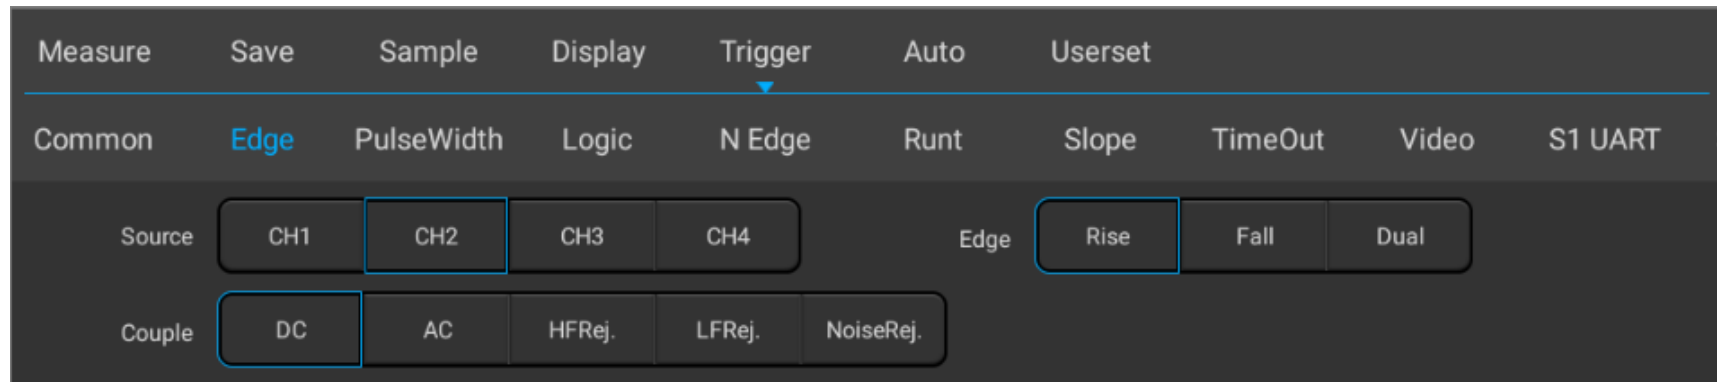

Figure 6-12 Edge Trigger Setting Menu
- 1) Tap “Trigger” on the main menu to open the trigger menu, select edge trigger in the trigger type, and set edge trigger as follows, as shown in Figure 6-12: